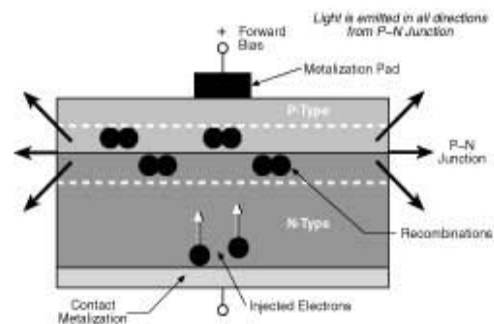

Figure 6
How do LEDs emit light? The process is based on the change in energy levels when holes and electrons combine in the negative (N) region of a positive-negative (PN) semiconductor diode. During these shifts in energy, photons are generated, some of which are absorbed by the semiconductor material and some of which are emitted as light energy (see Fig. 6). The wavelength of the light depends on the difference of energy levels in the recombination process as well as the type of semiconductor material used to form the LED chip.